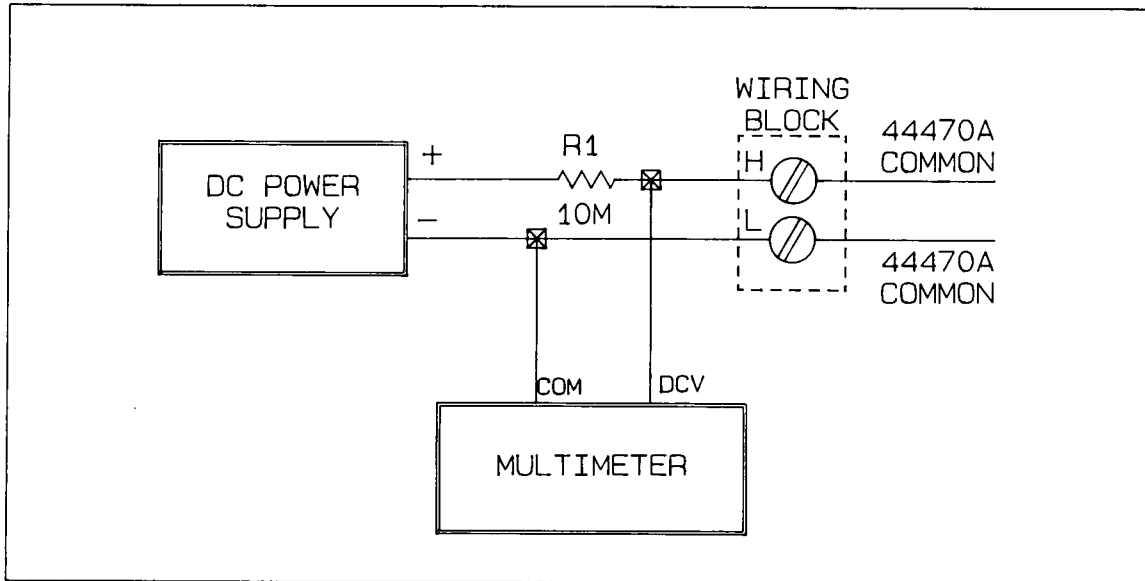

Figure 8-6 Common High To Low DC Isolation Test
12. Connect the equipment to the common high and common low lines as shown in Figure 8-6.